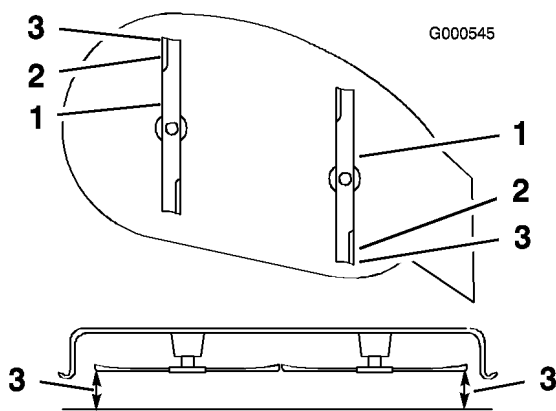

Figure 44
9. Set the height-of-cut at position **D** [3 inch (76 mm)] and carefully rotate the blades so they are facing front to rear (Figure 44).
10. Measure from the tip of the front blade to the flat surface and the tip of the rear blade to the flat surface (Figure 44). If the front blade tip is not 1/16-5/16 inch (1.6-7.9 mm) lower than the rear blade tip, adjust the front locknuts.